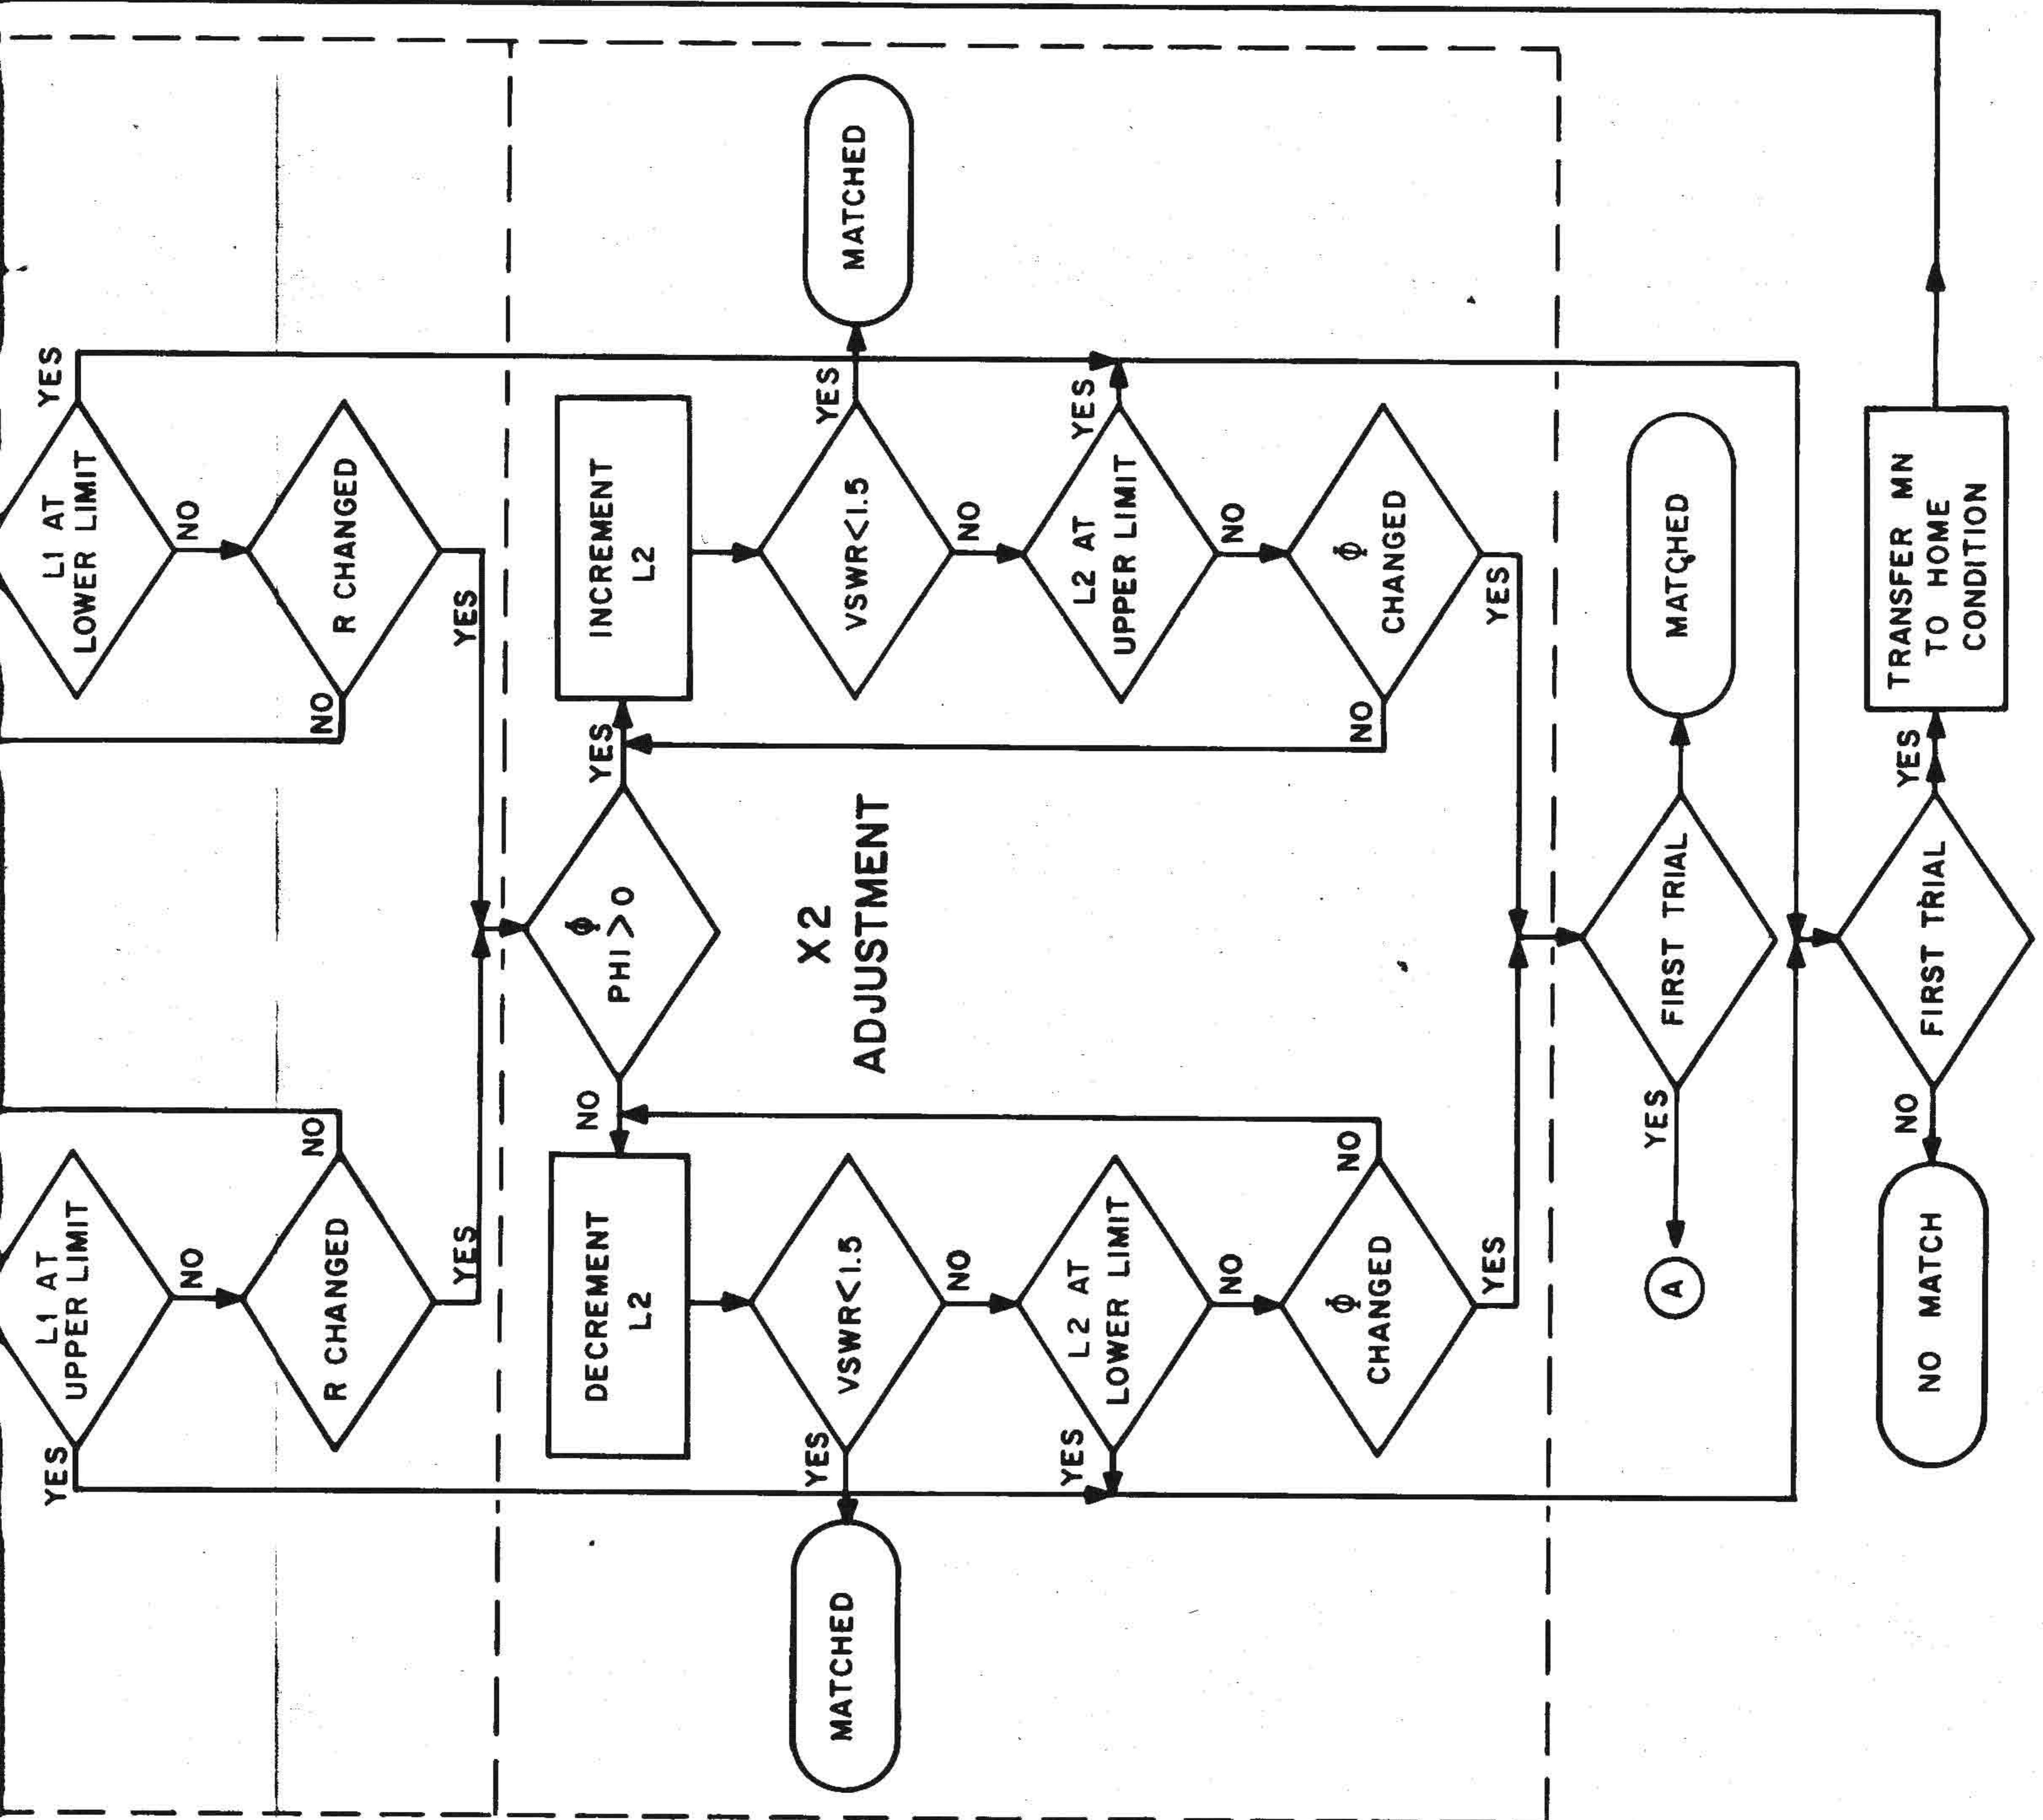

Fig. 2-32. Matching algorithm flowchart
c. Matching Algorithm (fig. 2-32).
This paragraph provides a short description of the matching algorithm. For full details, follow the flow chart in fig. 2-32.